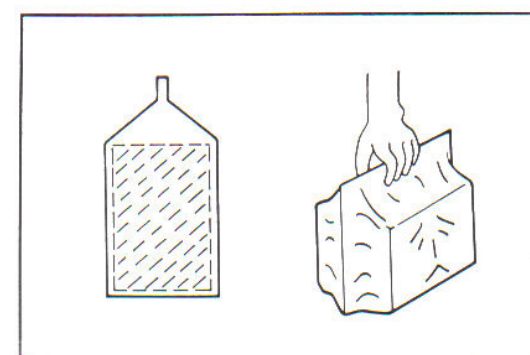

Fig. 5.45
c. However, if upon inspection, the seal is as shown in Fig. 5.45, it can be assumed that the seal had been broken and, therefore, the battery should be charged in accordance with Table 3 after filling with electrolyte.